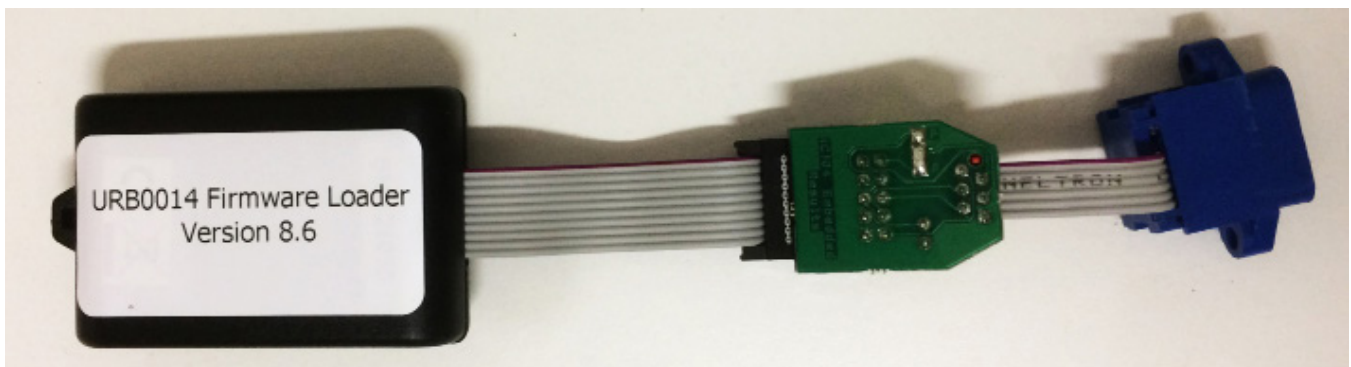

Figure 30. MKM BMS Firmware Loader
2. Connect the URB0014 Firmware Loader version 8.6 (Figure 30) to the Tech Port (Figure 31). The indicator light on the Loader will flash green once to indicate positive connection.